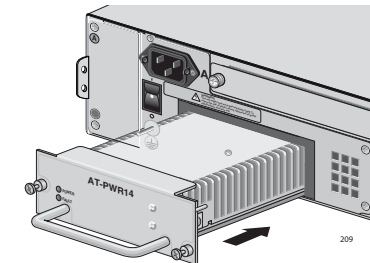

Figure 4. Inserting the AT-PWR14 Module into the Power Supply Slot
6. Slide the AT-PWR14 module into the RPS slot, as shown in Figure 4.